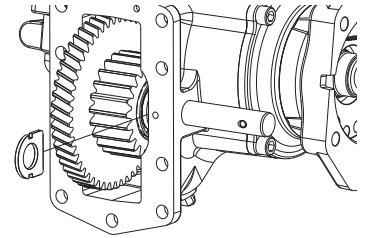

Figure 10 – Shim Installation
4. Insert the shim (28) between the bearing and the housing with the curved end towards the mounting pad (on the set screw side of the mounting pad). Tap the input shaft into the housing and through the bearing races. *See Figure 10*